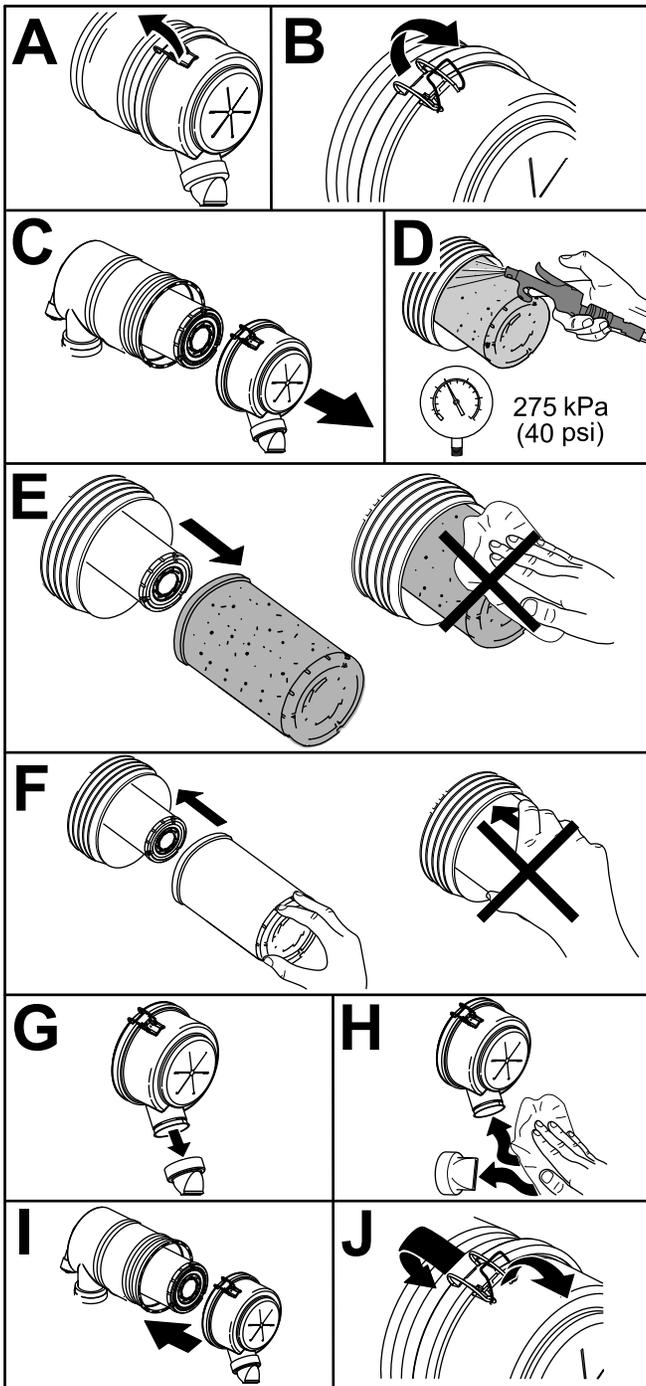

Figure 52
1. Replace the air cleaner (Figure 52).